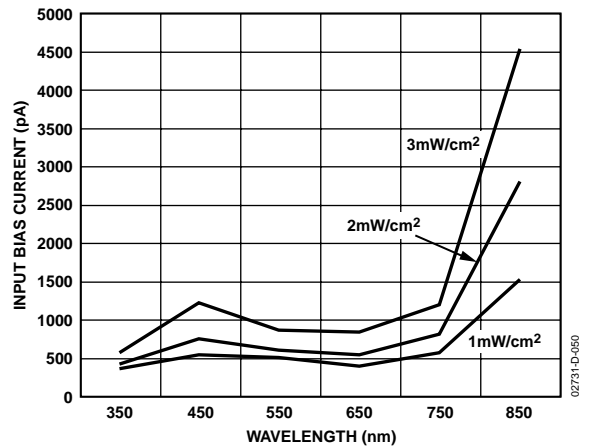

Figure 50. AD8605ACB Input Bias Current Response to Direct Illumination of Varying Intensity and Wavelength
The AD8605ACB (MicroCSP package option) is essentially a silicon die with additional post fabrication dielectric and intermetallic processing designed to contact solder bumps on the active side of the chip. With this package type, the die is exposed to ambient light and is subject to photoelectric effects. Light sensitivity analysis of the AD8605ACB mounted on standard PCB material reveals that only the input bias current (IB) parameter is impacted when the package is illuminated directly by high intensity light. No degradation in electrical performance is observed due to illumination by low intensity (0.1 mW/cm²) ambient light. Figure 50 shows that IB increases with increasing wavelength and intensity of incident light; IB can reach levels as high as 4500 pA at a light intensity of 3 mW/cm² and a wavelength of 850 nm. The light intensities
shown in Figure 50 are not normal for most applications, i.e., even though direct sunlight can have intensities of 50 mW/cm², office ambient light can be as low as 0.1 mW/cm².